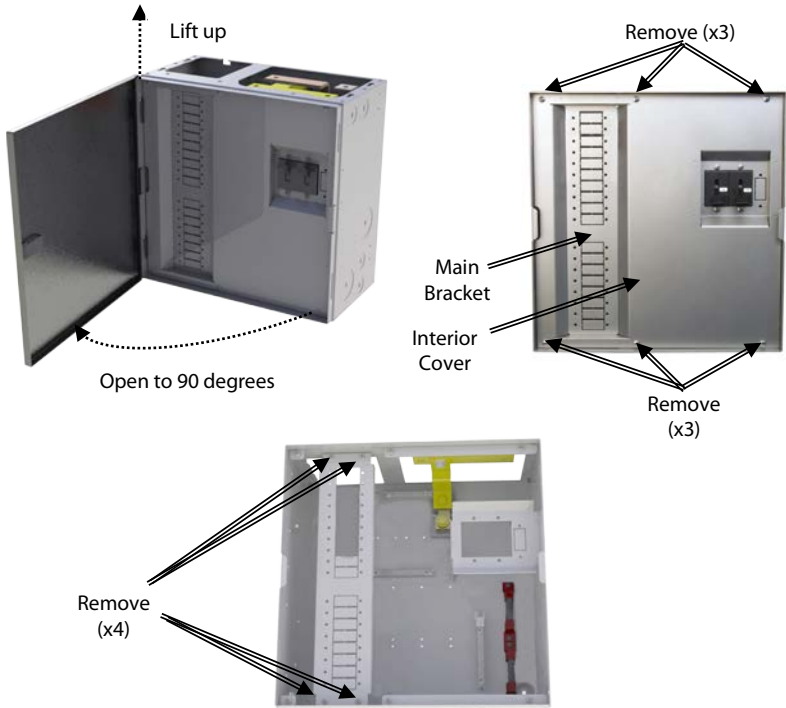

Figure 3 Removing the Covers and Main Bracket
1. Remove the front cover (sometimes called the “front door”) of the GSLC. Open the door to 90 degrees and lift up about 1/2" to disengage it from the GSLC (see Figure 3).
2. Remove the interior cover (sometimes called the “dead front”) of the GSLC. Remove the six screws installed across the top and bottom of the cover (see Figure 3) and take the interior cover off.¹
3. Remove the main circuit breaker bracket. Remove the four screws at the top and bottom of the bracket (see Figure 3) and take it off.¹
5. Re-install the main circuit breaker bracket using the four screws and any star washers that were previously removed. Use the illustrations in Figure 3 on page 5 for reference.
At this stage, the installation is complete. The interior cover must be re-installed using the six screws and star washers previously removed. The front cover can then be re-installed. Use the illustrations in Figure 3 on page 5 for reference.